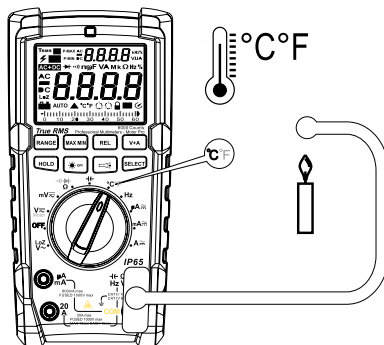

Figure 7
10. Temperature Measurement (Only for ELIT 932) (See Figure 7)